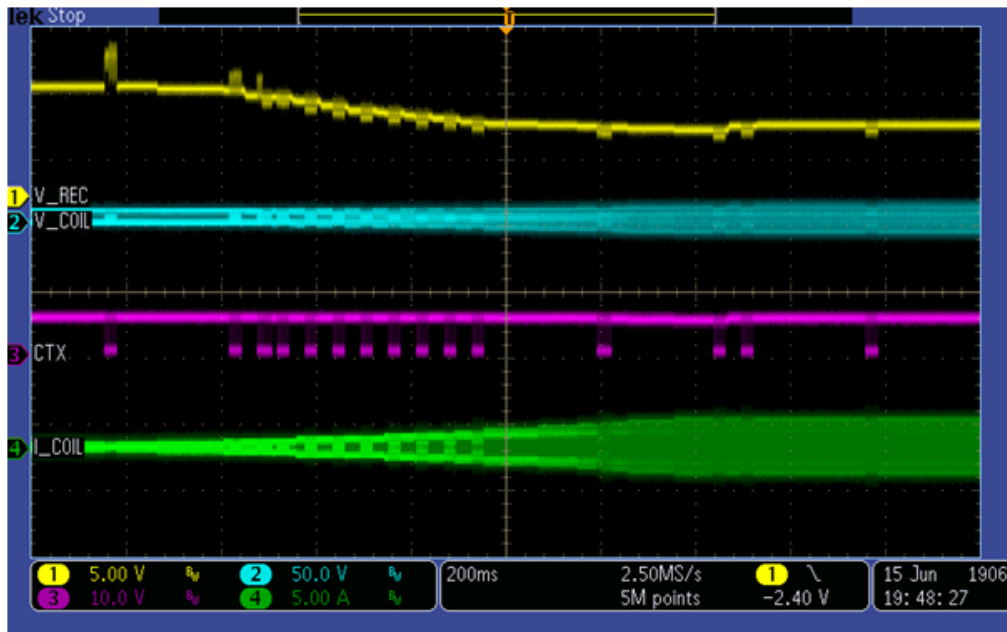

Figure 27. System response for adding the load gradually
- System response measurement for increasing the load gradually from 0 A is shown in Figure 27.